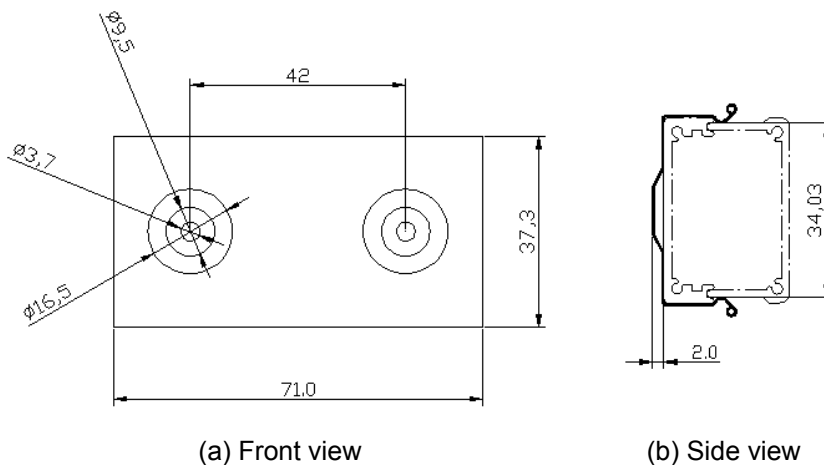

Fig. 3.2 Micro unit's clip
a) Mount the clip (Fig. 3.2) onto a fixture, e.g. a plank, (either on the wall or on a flat surface) with two screws piercing through the holes on the mounting frame to secure it in position.